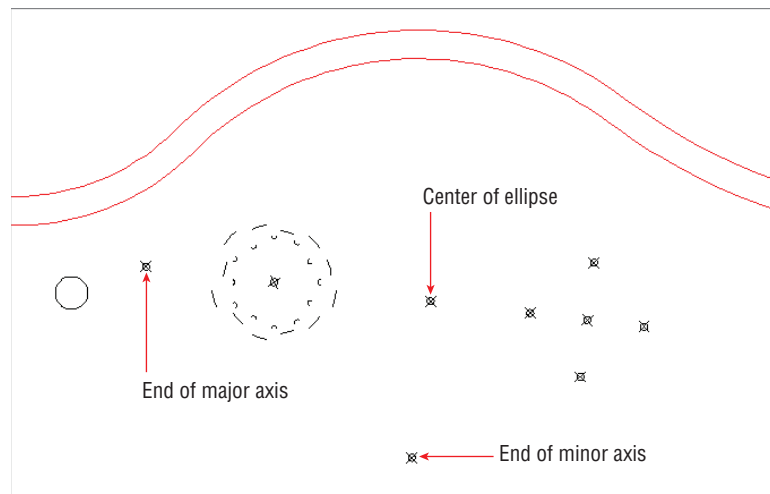

FIGURE 5.10 Drawing an ellipse
3. Open the Ellipse menu in the Draw panel, and choose the Center method. Click the center point, the end of the major axis, and the end of the minor axis, as shown in Figure 5.10.
5. Right-click the Object Snap toggle in the status bar, and select Quadrant from the context menu. Click the quadrant point (north, south, east, or west points of any circle) opposite the point object marking the end of the major axis (see Figure 5.10), and then click the aforementioned point object itself to break the ellipse in half. The lower half of the ellipse remains, leaving an *elliptical arc*.